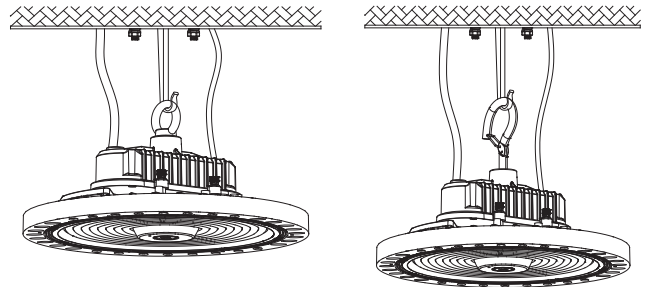

Figure 2
- Step 2: Hammer in expansion bolts which are provided into the drilled holes as shown in Figure 2 and loosen the nuts.
- Step 2. Hang the fixture on the ceiling hook or chain. (Figure 2)